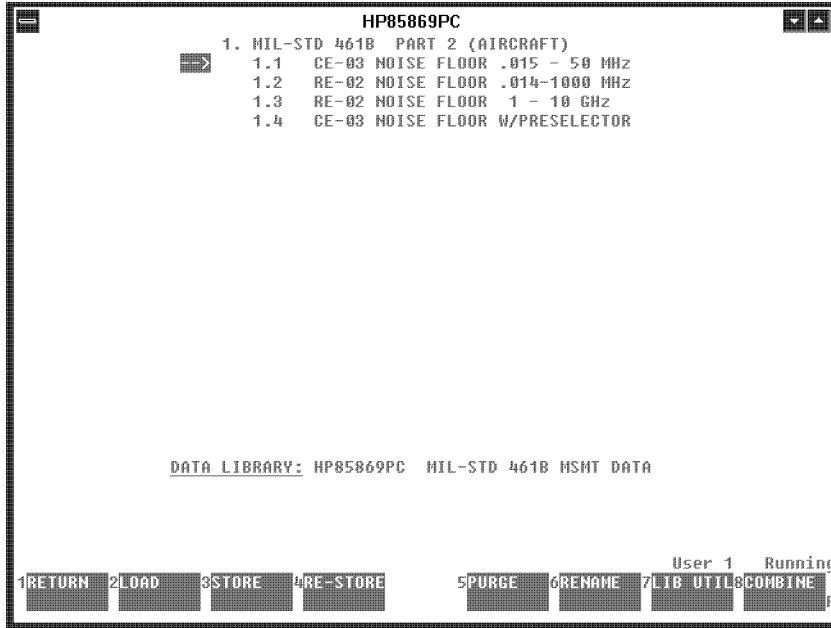

Figure 6-14. Sample Data Library for MIL-STD 461B
- MIL-STD 461B Measurement Data shown in Figure 6-14